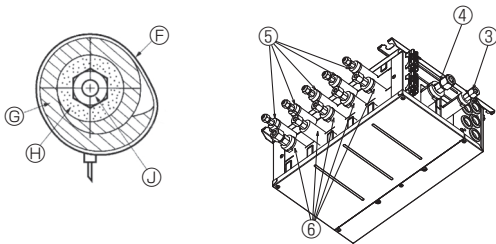
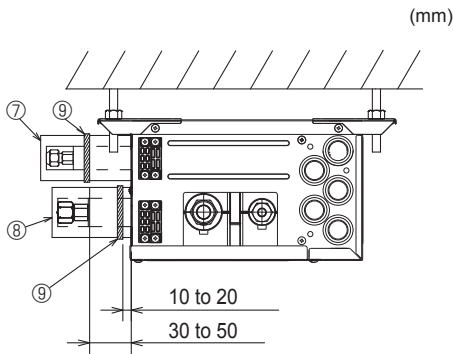

Fig. 7-4
Fig. 7-5
• Insulate the liquid and gas pipes of the branch box by attaching the heat-resistant polyethylene foam tightly around them. (Fig. 7-4)
- (5) Press the pipe covers ③ and ⑤ on the liquid piping against the unit and wrap to hold in place. (Fig. 7-4)
- (6) Press the pipe covers ④ and ⑥ on the gas piping against the unit and wrap to hold in place. (Fig. 7-4)
- (7) Apply the supplied bands ⑨ at a position 10 - 20 mm from each end of the pipe covers (③④⑤⑥).
- (8) If the indoor unit is not connected, fit the supplied pipe covers (with caps, ⑦ and ⑧) to the branch box refrigerant piping connections against the unit to prevent condensation dripping from the pipes. (Fig. 7-5)
- (9) Clamp the pipe covers (⑦⑧) in place with the supplied bands ⑨.
- ⑦ Band (3.1 Accessories No. ⑨)
- ⑧ Pipe covers (3.1 Accessories No. ③④⑤⑥)
- ⑨ Thermal insulation for refrigerant piping
- ⑩ Refrigerant piping
7.2 Handling of ports that are not connected to outdoor unit (Fig. 7-5)